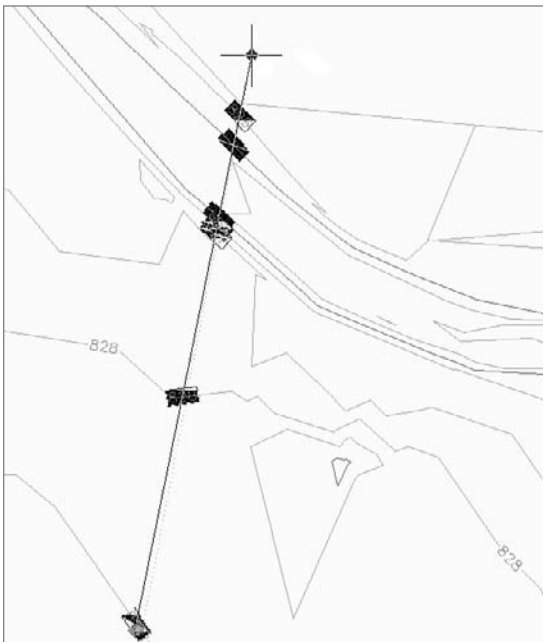

Figure 7.13
7. Grab the northeastern-most grip of the three, and drag it to an approximate position as shown in Figure 7.13. Note the shadow box areas indicating where new labels will be placed on the surface.